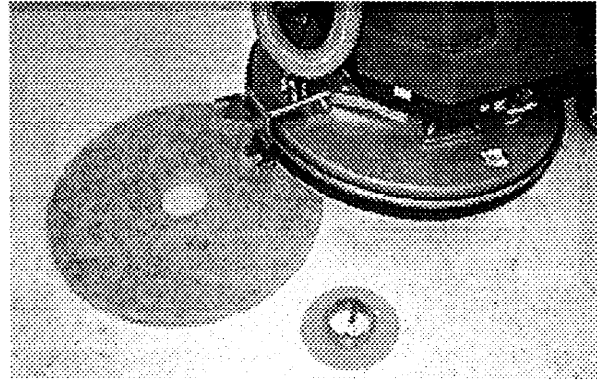

FIG. 18.
5. Remove the plastic centerlock from the pad driver by turning it **counterclockwise**. Position the pad accurately centered on the pad driver, and screw the centerlock in place clockwise until it is tight. (Figure 18)